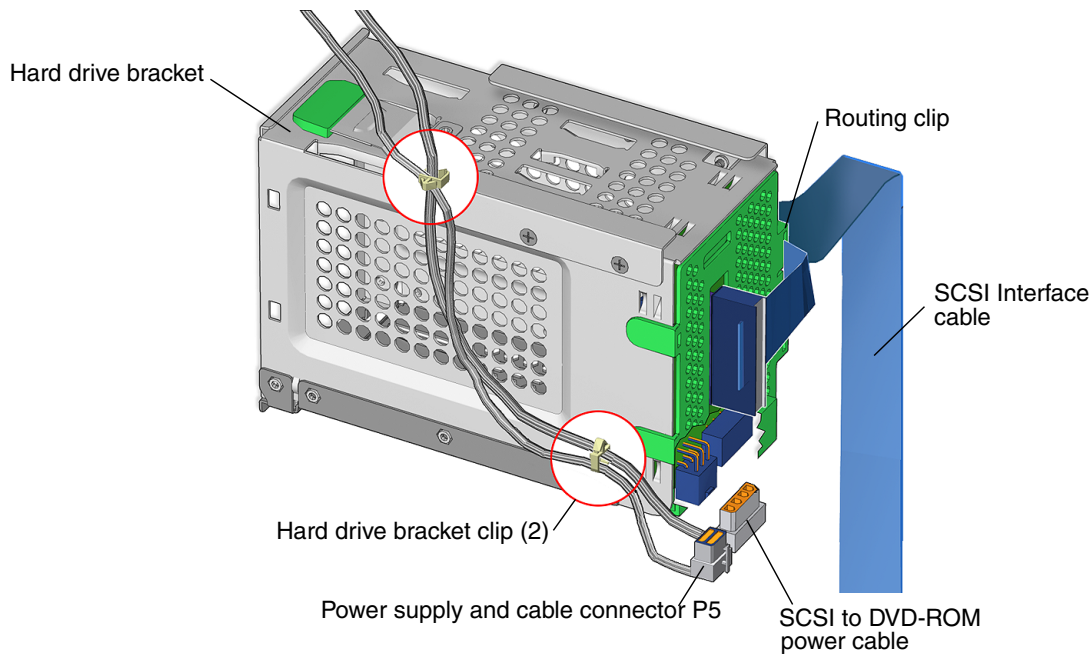

FIGURE 10-16 Disconnecting the Power Supply Cables
3. Disconnect the two power cables (FIGURE 10-16).